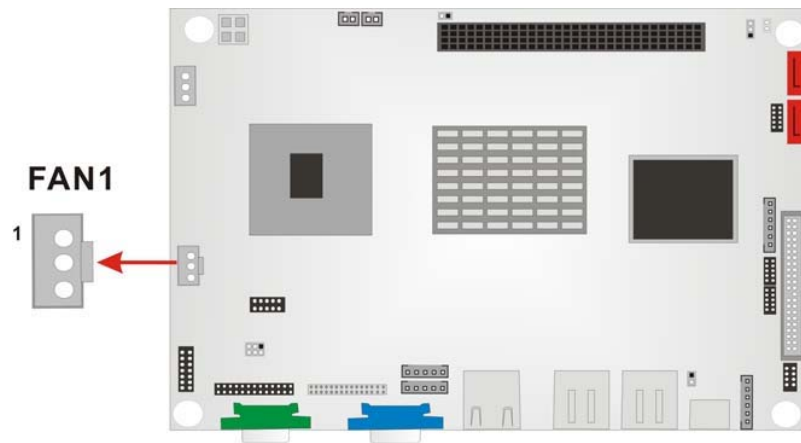

Figure 3-11: Fan Connector Location
- CN Location:** See Figure 3-11